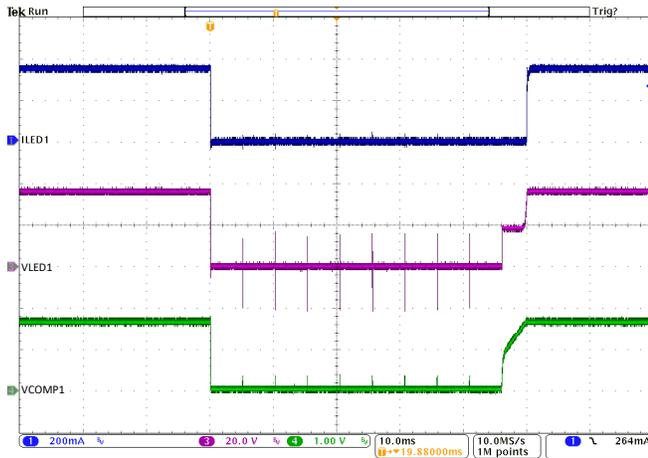

Figure 8. CC Boost LED Short Over-Current Protection
TPS92682-Q1 include various fault handling and diagnostic features. Figure 8 and Figure 9 show the LED short protection for CC boost channel and LED open protection for the boost-to-battery channel.
As shown in Figure 8, when a short across the LED load occurs, the overcurrent (OC) protection is triggered (if OC Fault is enabled), the COMP-pin is pulled low, and the associated channel is turned off. The channel remains off for the programmed main fault timer (MFT), when the channel performs a soft-start sequence.